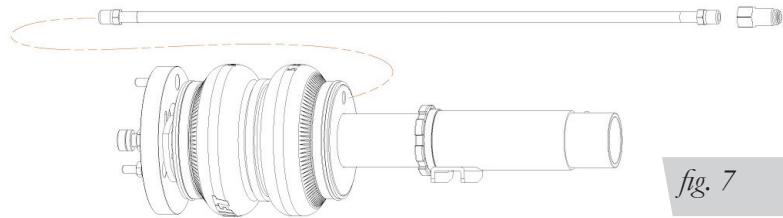

fig. 7
1. Begin by installing the air line into the air spring. Apply thread sealant to the threads of the air line. Tighten the appropriate fitting to the air line (1 3/4 turns beyond hand-tight). Tighten the air line into the air spring 1 3/4 turns beyond hand-tight (Fig. 7).